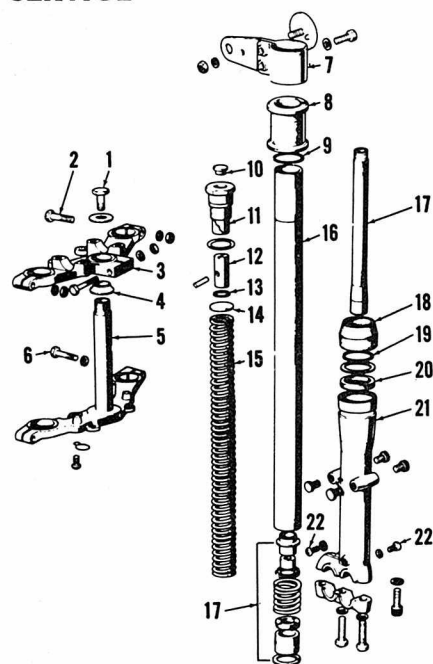

Fig. K4-9—Exploded view of F5 front suspension unit. Other units are similar.
ward movement of axle will make steering slow thus more stable at high speed. To change tension of internal spring, remove plug (10—Fig. K4-9) and turn adjuster (12) with screwdriver. Pin through adjuster engages detents in top bolt (11) to change tension. Make certain that both fork tubes are adjusted the same. Rough riding conditions normally require a stiff spring action.